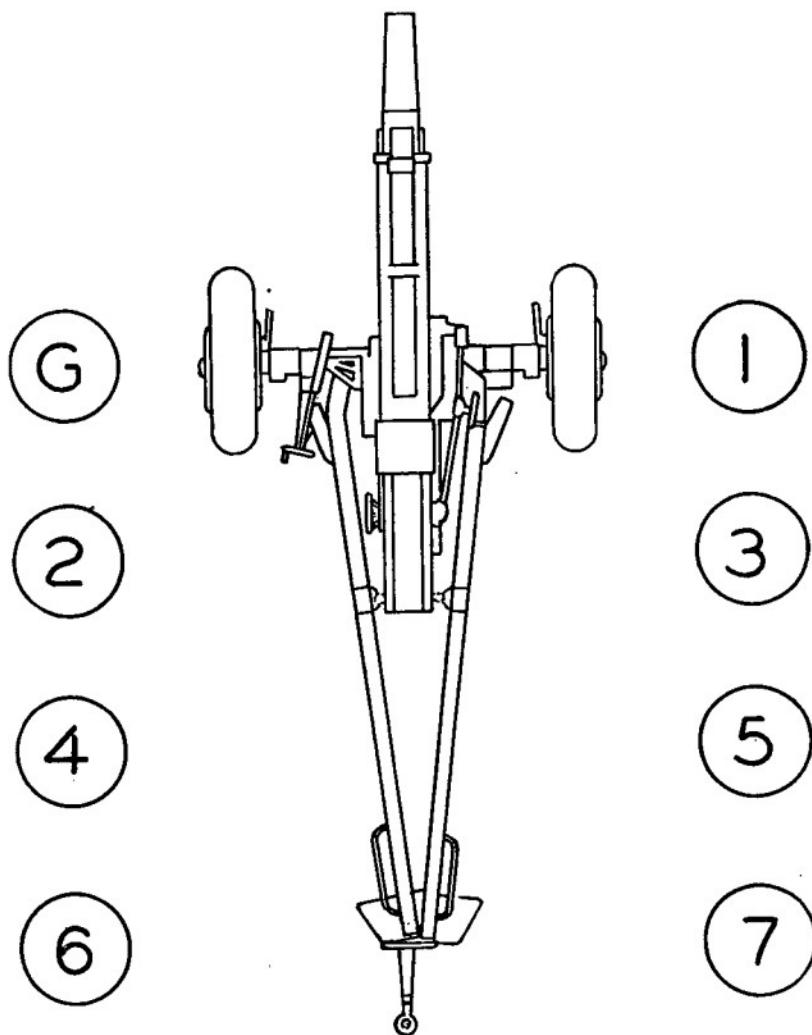

Figure 10. Posts of cannoneers, howitzer uncoupled but not prepared for action.
b. Pieces uncoupled. See paragraph 17 and figures 10 and 11.
(1) *Pieces.* The gunner and No. 1 hasten to the wheels nearest their respective posts. Nos. 2, 3, 6, and 7 hasten to the trail handles, even-numbered cannoneers on the right, odd-numbered on the left. Nos. 4 and 5 go to the muzzle of the piece and assist by placing their weight on the tube. No. 2 unlatches the pintle and, assisted by Nos. 3, 6, and 7, raises the trails from the pintle; No. 4 sets the left hand brake. Nos. 2, 3, 4, 5, 6, and 7 swing the piece 180° clockwise. During this operation, No. 3 releases the drawbar lock and turns the drawbar 180° , latching it in the firing position. Nos. 2, 3, 6, and 7 then lower the trails to the ground. No. 5 sets the right hand brake. The gunner and all cannoneers then unload the ammunition, tools, and accessories and arrange them in an orderly and convenient manner to the left of the piece (when the truck is used as the prime mover, the driver lowers the tail gate prior to the unloading). When the unloading has been completed, the chief of section commands or signals DRIVE ON. The cannoneers take their posts (par. 17 and fig. 10).
17. POSTS OF CANNONEERS, PIECE UNCOUPLED. a. The piece having been uncoupled but not prepared for action, posts of cannoneers are as in figure 10.
18. MARCH ORDER. a. To resume order for marching. The howitzer being uncoupled and prepared for action, to resume the order for marching, the command is: MARCH ORDER. Duties of individuals are as follows (on completion of his duties, each cannoneer takes his post (fig. 10)):